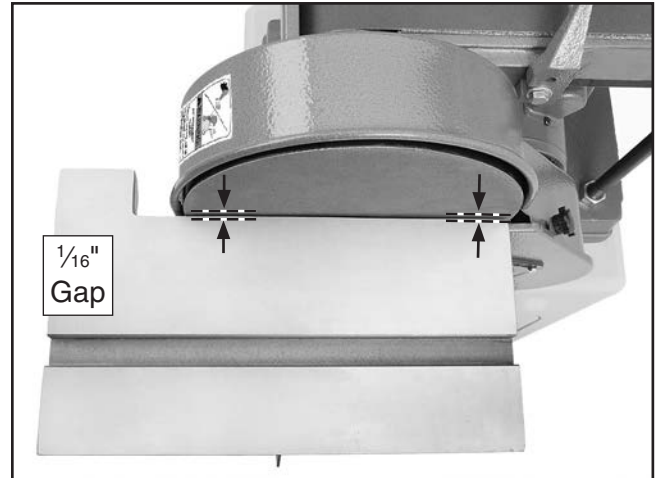

Figure 37. Correct distance between disc and work table.
31. Using a ruler, adjust the edge of the work table approximately $\frac{1}{16}$ " away from the sanding disc on both sides (see **Figure 37**), then tighten the set screws on the work table arm.